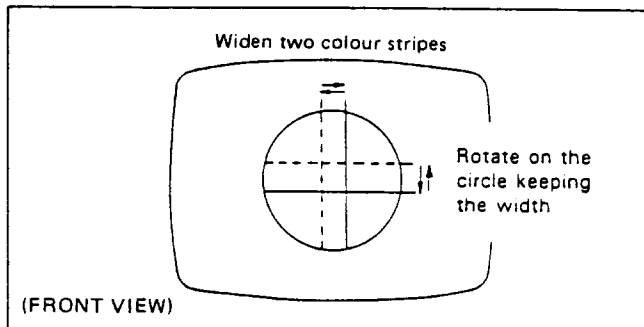

Fig. 3
1. Overlap red and blue lines in the centre of the screen with a four-pole magnet and produce a magenta colour (Fig. 3).